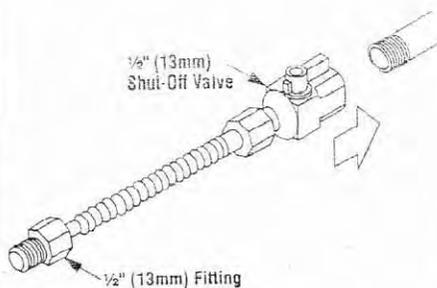

Figure 11
**Step 6. 1/2" Flex Connector Procedure –** Attach a 1/2" (13 mm) x 12' (305 mm) length flex connector with a shut-off valve to the 1/2" (13 mm) gas supply stub. Use a wrench and pipe joint compound (where required). Tighten fitting securely (Figure 11).